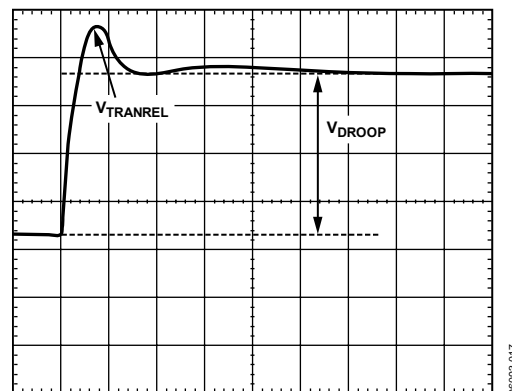

Figure 19. Transient Setting Waveform
- For load release (see Figure 19), if $V_{TRANREL}$ is larger than the allowed overshoot, there is not enough output capacitance. Either more capacitance is needed, or the inductor values need to be made smaller. When changing inductors, start the design again using a spreadsheet and this tuning procedure.